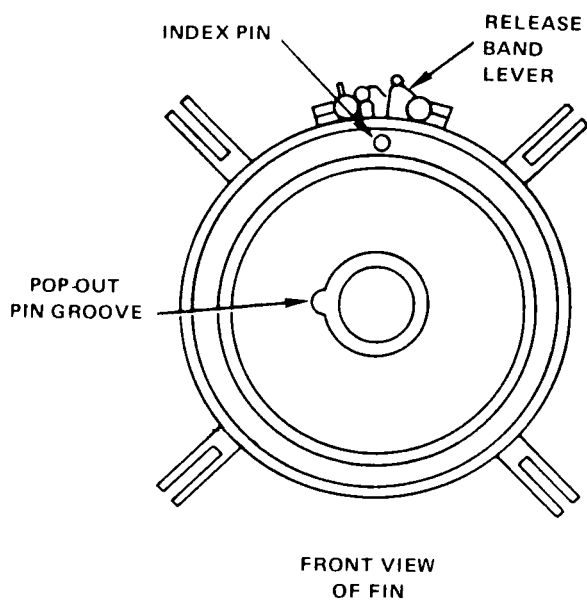

Figure 3-10. Relationship of Index Pin, Pop-Out Pin Groove, and Release Band Lever
1. Check relationship of index pin and release band. Relationship must be as shown in figure 3-10.
1. Check relationship of index pin and release band. Relationship must be shown in figure 3-10.